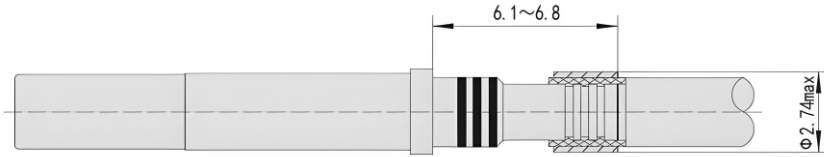

Figure 1.14
⑦As shown in Figure 1.14, place the shielding crimp sleeve forward onto the cable shielding layer, with the position dimension set to 6.1~6.8. Cut off the excess shielding layer that extends beyond the shielding crimp sleeve. Use tool M22520/4-01 and locator M22520/4-02 to crimp the crimp sleeve: crimp once, then rotate the contact 45 degrees and crimp again. After the second crimping, the diameter of the shielding crimp sleeve must not exceed 2.74.